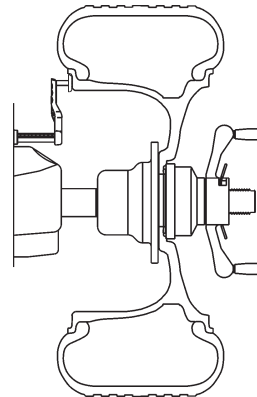
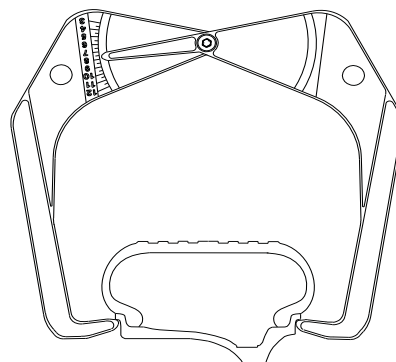

Figure 23a
Figure 23b
4.5.1 Rim Distance and Diameter (offset) - Move the rim offset arm to the edge of the rim, touch the pointer to the rim edge as illustrated in Figure 23a and hold steady for about a second. The beeper will sound when the distance and diameter values are calculated and entered. Return the arm to its fully in and down position on the balancer. Do not allow the measurement arm to "dangle" down in front of the balance.
4.5.3. Measure/Enter rim width (manual) using rim width calipers. Measure wheel where corrective clip-on weight would be applied, Figure 23b. Press the Width entry key, Figure 23a, and enter the measured width by pressing +/- keys until the desired value appears in the display.